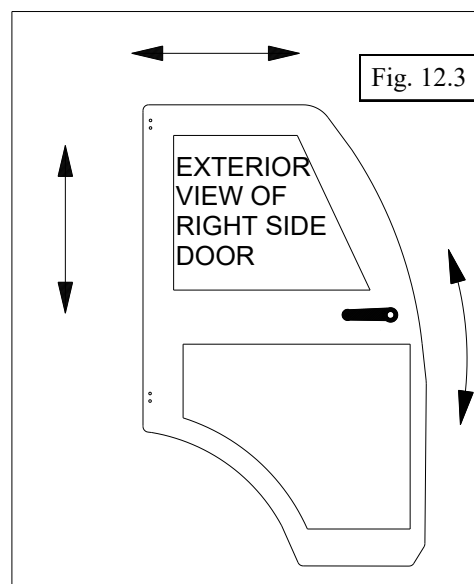

Fig. 12.3
12.3 Per fig. 12.3, the 1/4-20 hex head bolts on the door hinges can be loosened on the rear tube, or on the door itself, or in both places, in order to rotate or move the door up or down and forward or backward as necessary for proper alignment with side frame. Note: An assistant will be needed for this step. Keep the hinge sleeves fully seated on the pin hinges. Tighten all hinge bolts using caution to **not** over tighten. Over tightening will crush (damage) the structural tubing. **Torque to 40 inch/pounds.**